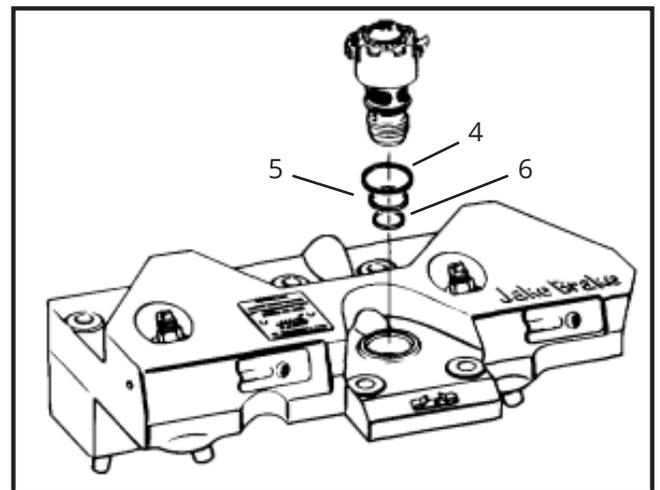

Fig. 1
2. Remove and discard the three rubber seal rings (see Fig. 1). If the lower ring stays in the bottom of the housing solenoid bore, remove with a seal pick.